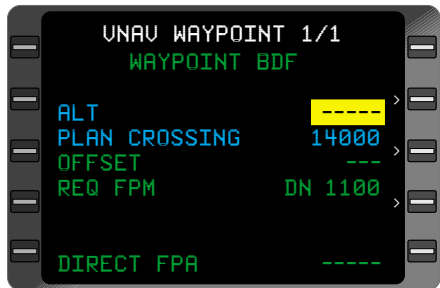
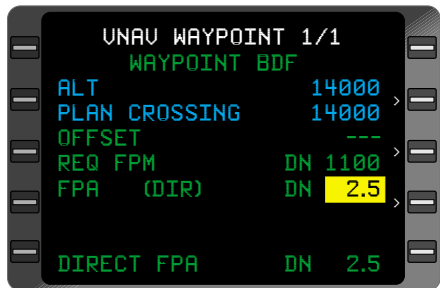

Figure 3-137
Figure 3-138
- VNAV** Key - DEPRESS. **VNAV WAYPOINT** Page appears. If necessary, position cursor over **ALT** field (Figure 3-137). If an altitude constraint has already been programmed, the cursor will appear over the **FPA** value field (Figure 3-138). Go to Step 8.
*NOTE: Direct Flight Path Angle prefills if it is within the valid range and an ALT is programmed. (Figure 3-138)*